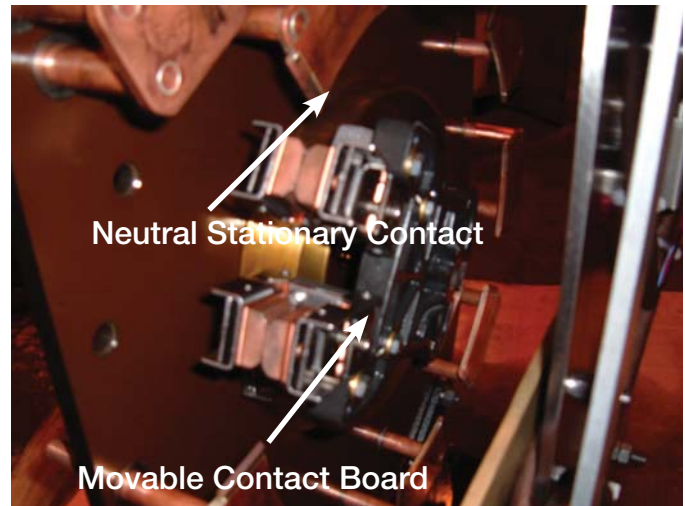

Figure 6.
10. Slide the movable contacts off the neutral stationary contact into the open space created by the removal of the 2-raise stationary contact. Disengage the ring contacts from the rings by pulling the movable contact board toward the steel panel. Remove the movable contact board (refer to Figures 6 and 7.)